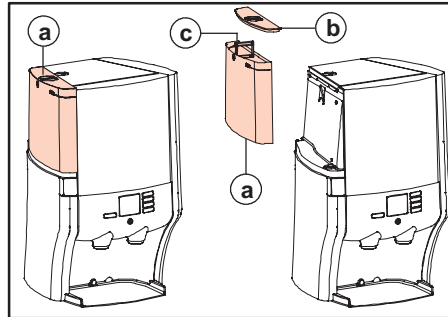

Fig. 8 Water tank model
When the "NO WATER" symbol (fig. 7) shows in the display, the water tank (fig. 8 a) must be filled:
1. Remove the lid (fig. 8 b).
2. Lift the water tank by the mounting from the dispenser (fig. 8 c).